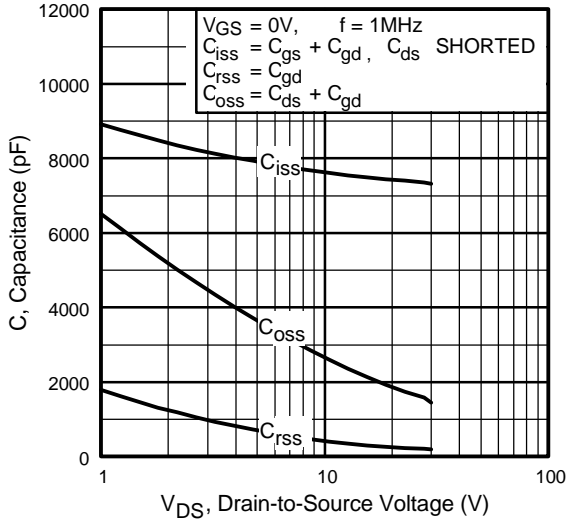

Fig 5. Typical Capacitance Vs. Drain-to-Source Voltage
| C_{riss} | Reverse Transfer Capacitance | — | 240 | — | | $f = 1.0MHz$, See Fig. 5 ⑦ |